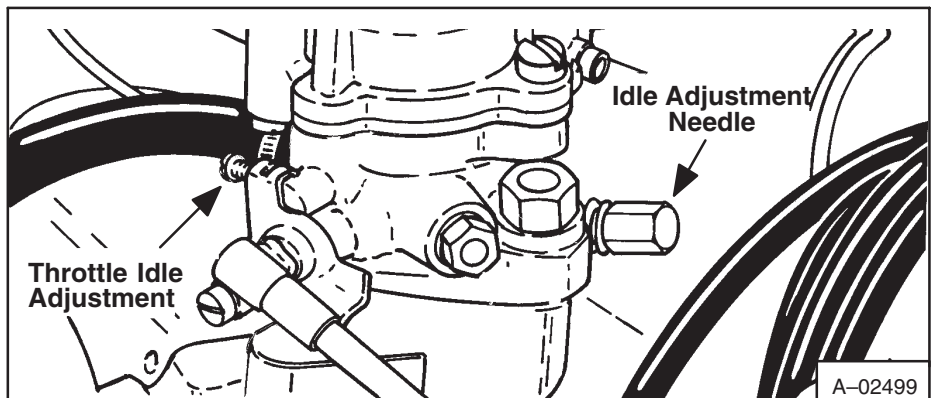

Fig. 7C-8 Carburetor Adjustment
19. Turn control arm stop (Fig. 7C-6) until there is an increase of 25 RPM.